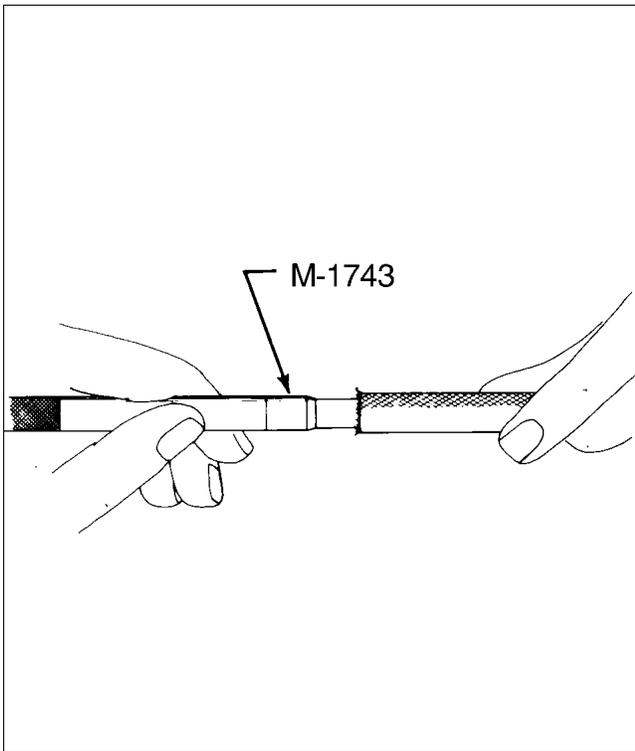

Figure 74-16. Stripping Tool
3. Flare out shielding, then without allowing any shielding to fold under, insert Slick T-112 or M-1743 stripping tool under braided shielding. (Refer to Figure 74-16.)